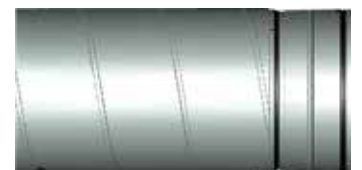

Figure 2
2. Check that the gasket is in full contact with the inside of the spiral pipe all the way around so that the lip is not twisted in one direction or the other. (figure 2).